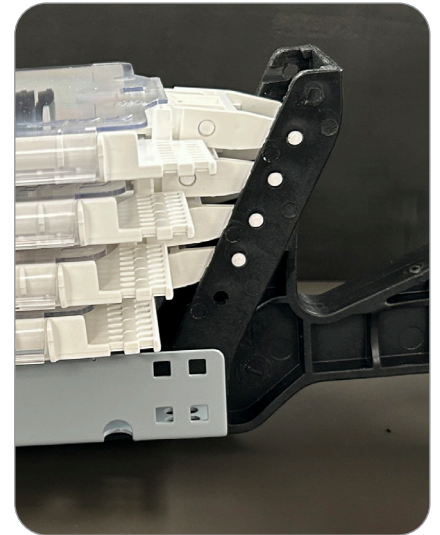

Figure 3
- Apex X-2/X-2S trays can only be installed in FOSC B in positions 2 through 5. (Figure 3)